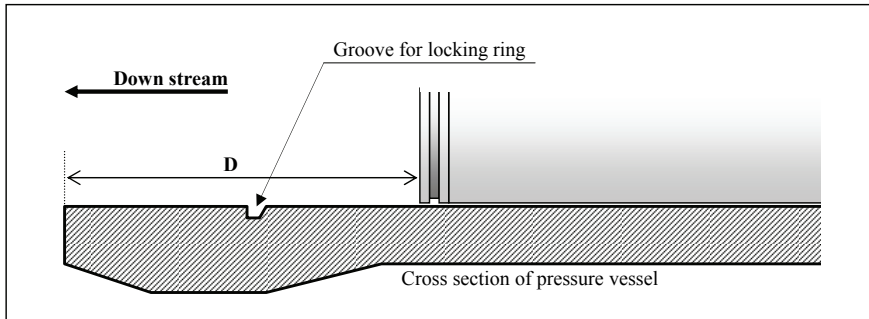

Figure 2
12. When the final element is installed, push the element stack forward until the face of the first(downstream) element is at dimension D as shown in figure 2. Take care to avoid pushing elements too far as it can be difficult to push the stack in a reverse direction.
Table 6. Representative vessel type dimension "D" (see figure 2.)